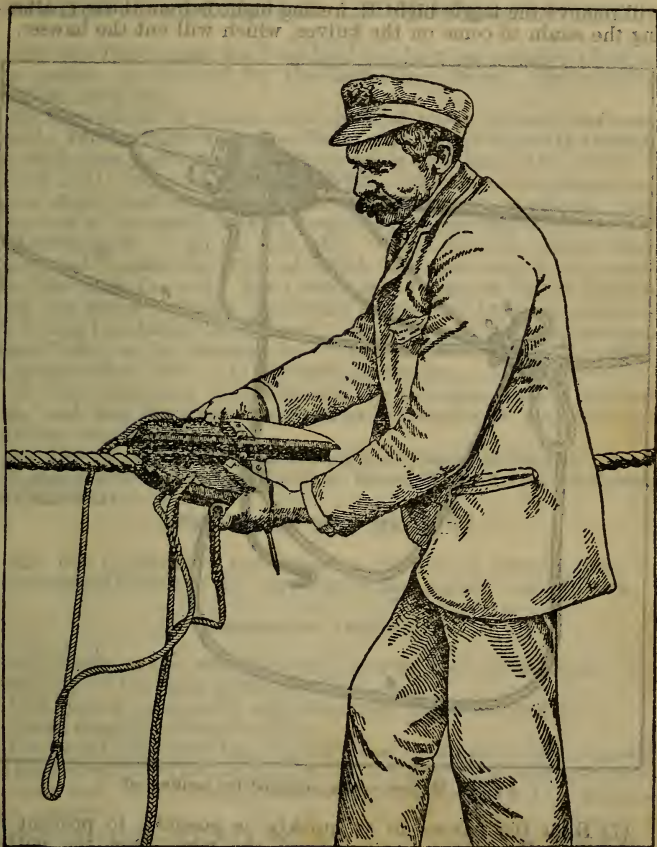

FIG. 16. Applying hawser cutter.
411. (1) After the crew is landed from a stranded vessel, it may be necessary to detach the hawser from the wreck, either for the purpose of using it elsewhere or because the wreck is rapidly breaking up. In either case the hawser cutter should be used. To do this, the breeches buoy is first removed, and then, facing the wreck and standing on the left of the hawser, the cutter is placed upon it by grasping it, as shown in figure 16, the white end of the cutter being inshore, the eyes of the knives inclined toward the wreck. The cutter is then closed and the clasp secured, head of pin to seaward.